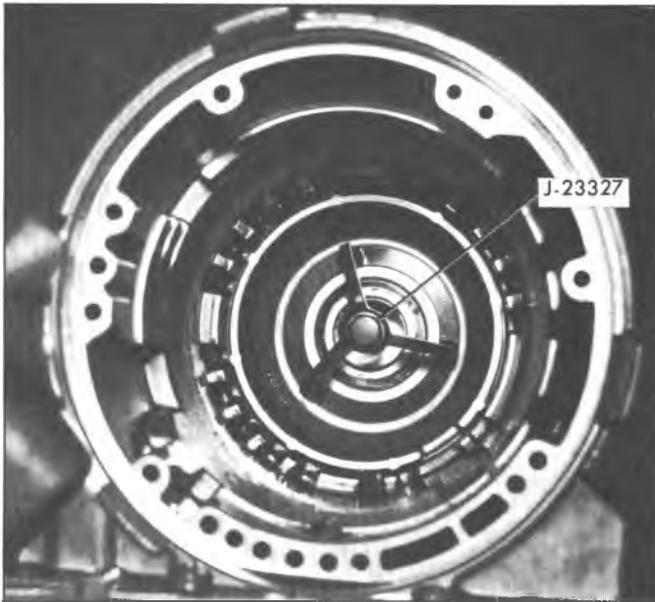

Fig. 45M-Compressing Low and Reverse Clutch Piston Spring Retainer
- 21. Compress low and reverse clutch piston spring retainer using tool J-23327 (fig. 45M) and remove piston retaining ring and spring retainer.